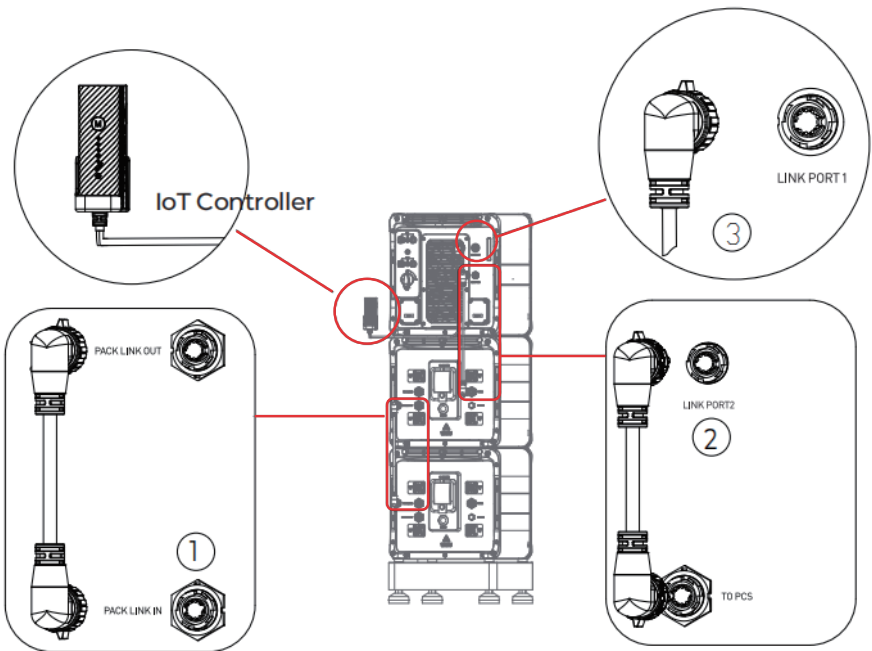

Fig. 7-3
Step 1: To achieve communication between two B500 battery packs, a communication cable is required. Plug one end of the cable to the B500's PACK LINK IN port, and the other to the upper B500's PACK LINK OUT port. See Fig. 7-3 ①.
Step 2: For communication between the EP900 inverter and B500 battery packs, plug one end of the communication cable to the top B500's inverter signal port (TO PCS), and the other to the LINK PORT 2 of the EP900 inverter. See Fig. 7-3 ②.
Step 3: Connect the IoT controller to the LINK PORT 1 of the EP900 inverter. See Fig. 7-3 ③.